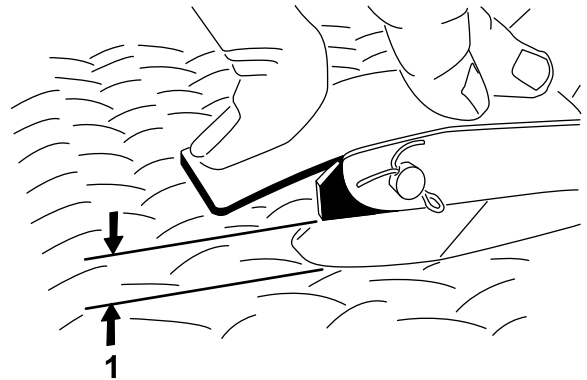

Figure 53
6. Adjust ball joint on accelerator cable and/or cable jam nuts while throttle lever is against high idle stop to allow .100"–.250" of clearance between accelerator pedal arm and top of diamond tread floor plate, when a 25 lb. force is applied to center of pedal (Figure 53). Tighten locknut.